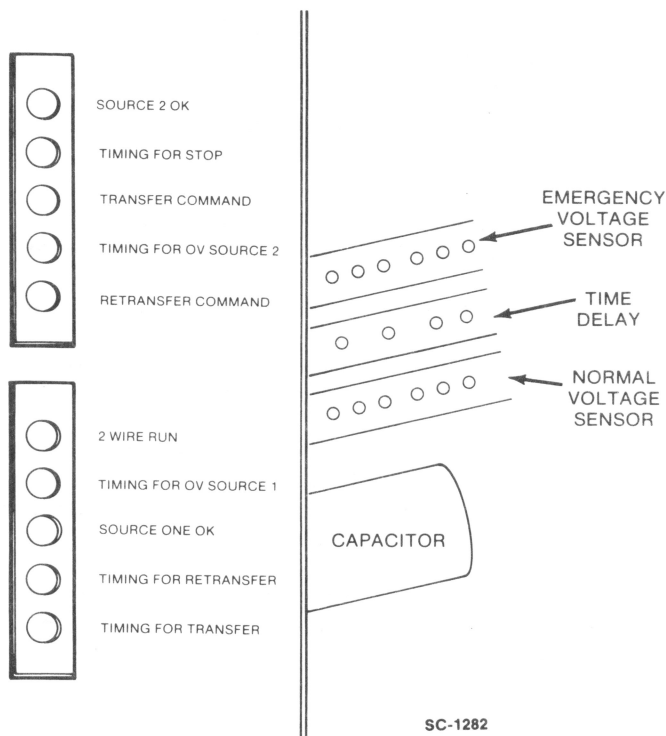

FIGURE 8. CONTROL PANEL LAMPS AND MODULES
1. Locate the programmed transition time delay on the left inside wall of the cabinet (Figure 8). It normally has factory settings for a few seconds. If the setting is satisfactory, proceed to next check. Otherwise, proceed to Step 2.
A separate voltage sensor is used for each power source. They are located on each side of the time delay module (Figure 8).
If necessary, the undervoltage sensor for either the Normal or Emergency sources may be calibrated as follows (see Figure 8 for location):
source should light (Figure 8).